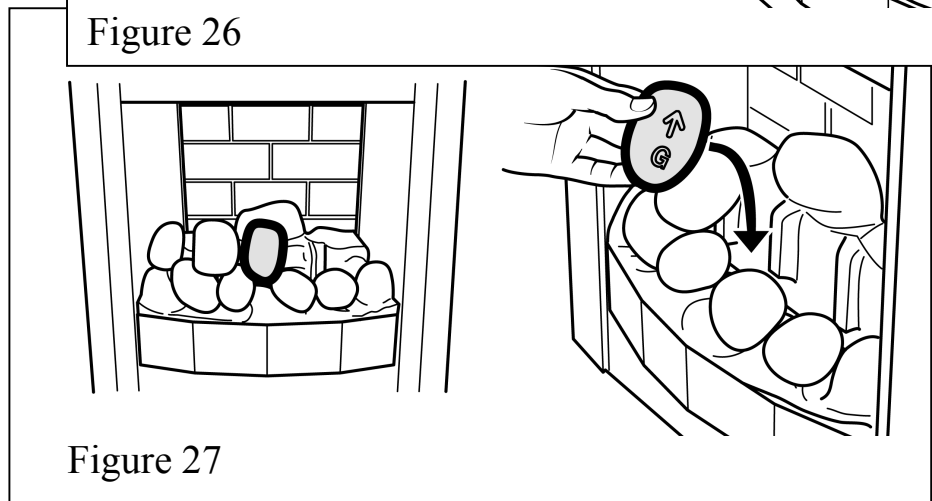

Figure 27
9. Hold pebble 'G' upright with the arrow pointing to the top. Place pebble 'G' between the front and rear base pebbles. It should rest on top of pebble 'B' & 'C' and rest against the moulded pebble in the rear pebble base. (See figure 27).